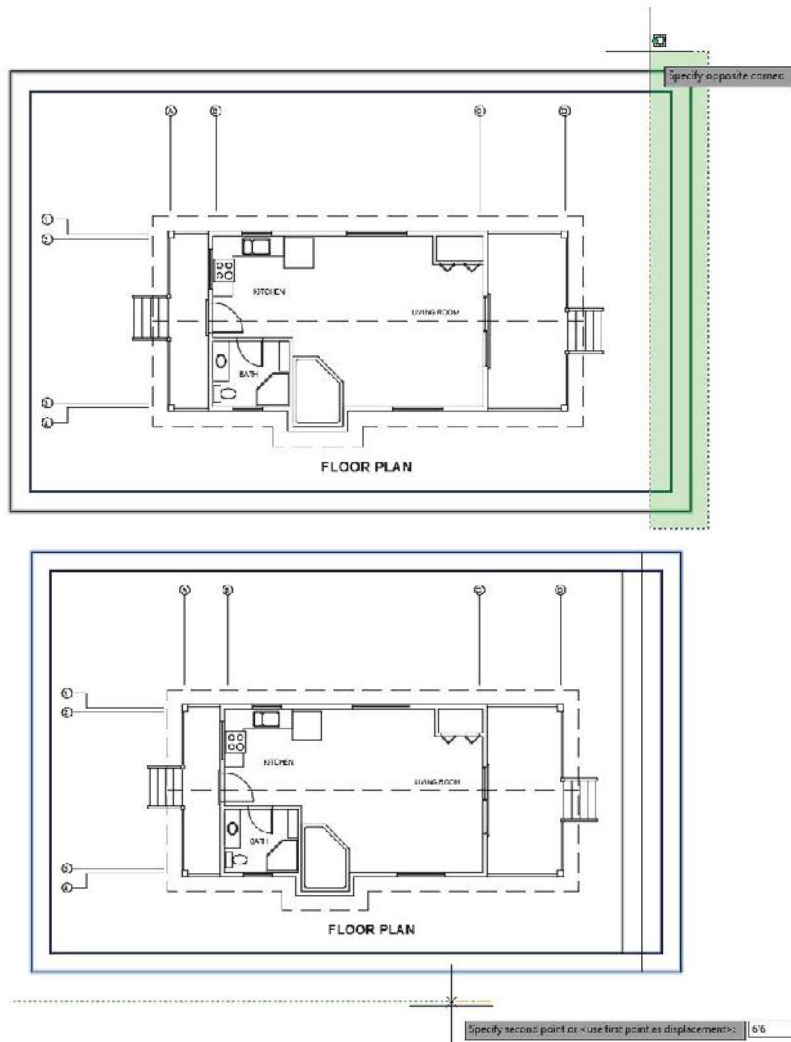

FIGURE 8.43: A crossing window selection around the inner-right title-block edge (top), and specifying the displacement distance (bottom)
3. At the Select objects: prompt, create a crossing window selection around the inner-right edge, as shown at the top of Figure 8.43, and press ↵.
5. With Ortho mode turned on, move your cursor to the left and use direct distance entry to specify a displacement of 6'-6" (2050 mm), as shown at the bottom of Figure 8.43.